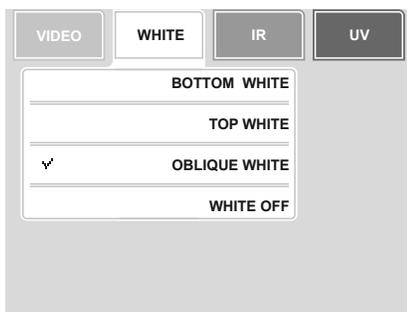

Fig. 13. Switching on **WHITE OBLIQUE** light
Place a banknote or a document on the device viewing table (4). Press WHITE in the operation mode menu. Select the Oblique white item in the submenu that opened (see Fig. 13). The mode is convenient, for example, for viewing the tilting effect on notes of different currencies. This mode makes possible to verify the height of the printed elements because they cast a clear shadow in an oblique light. The source of top white light is **LED** with a considerably high brightness, so **PLEASE DO NOT LOOK AT THE TOP WHITE LIGHT SOURCE.**